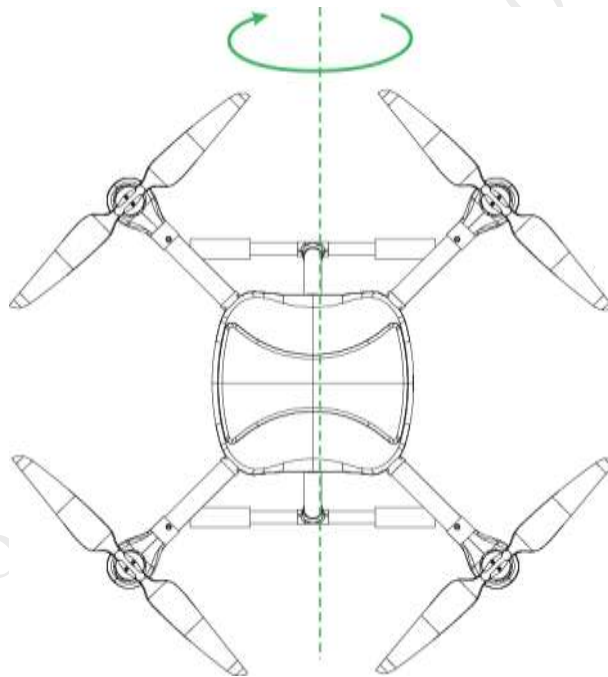

Figure 0-32
Step 4 Keep the aircraft vertical and rotate it for 360° vertically, as shown in Figure 0-32.